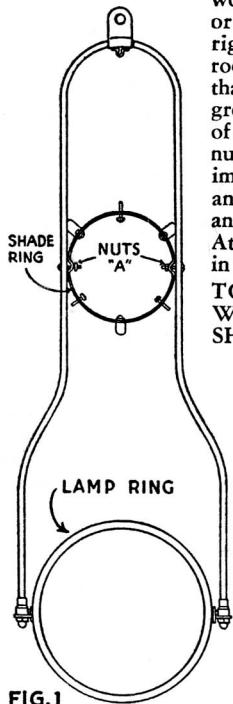
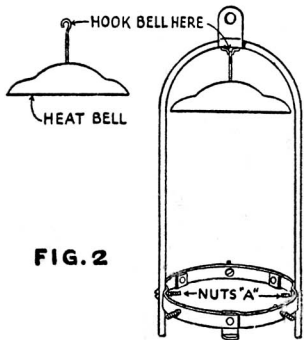

FIG. 1
FIG. 2
**TO ASSEMBLE:** Figure 1 shows hanger partially knocked down for compactness in shipping, and in the form in which it will be found when unwrapped. To assemble for use, remove wooden block, and rotate or turn the shade ring at right angles to the side rods (See Fig. 2) and so that rods lie in the two grooves in opposite sides of shade ring. Tighten up nuts "A" snugly. This is important as then nuts and bolts keep hanger rigid and in proper alignment. Attach Heat Bell as shown in Fig. 2.